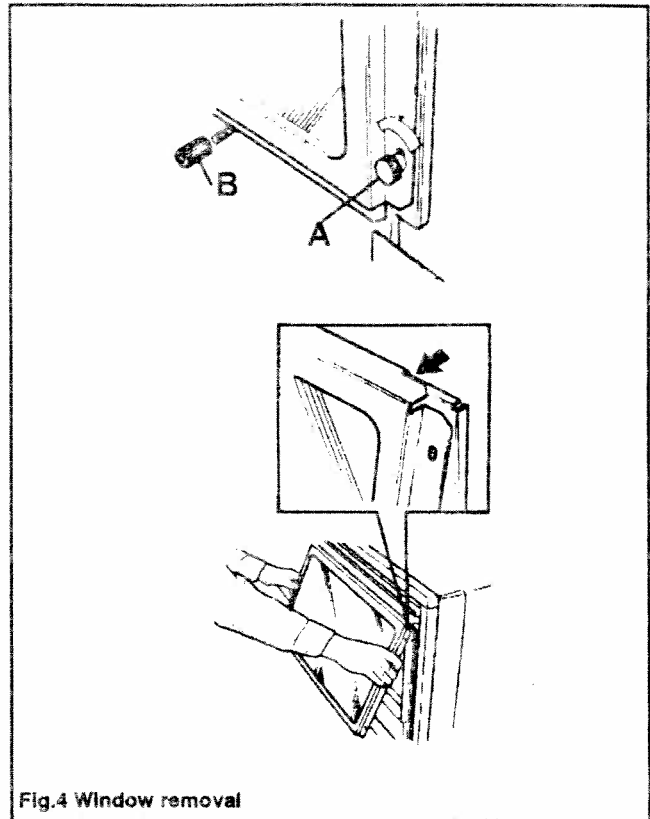

Fig.4 Window removal
6.1 Remove the window & logs (see figure 4)